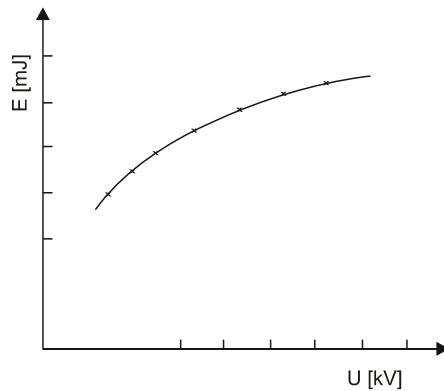

Figure 26: Pulse energy as a function of charging voltage
When the pulse energy (E) is considered as a function of the charging voltage (U), the result is approximately the function shown in Figure 26